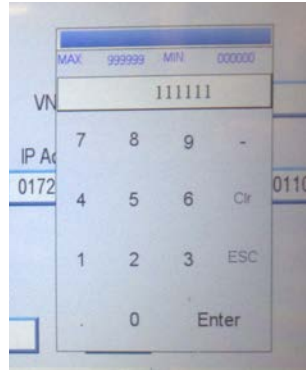

Figure D.4 - Enter Password
2. Enter the Password “111111” in the pop-up window that appears, and press the “Enter” key to accept. See Figure D.4.